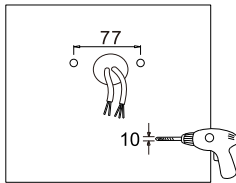

Figure 6
Step 1: Drill holes on the wall as shown. (Figure 6)